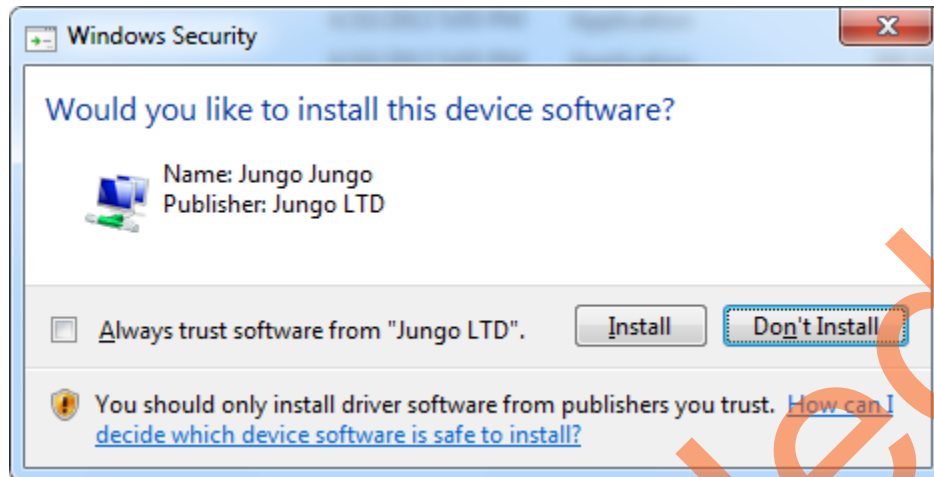

Figure 63 • Jungo Driver Installation
- Click **Install** if the window is displayed as shown in Figure 63.